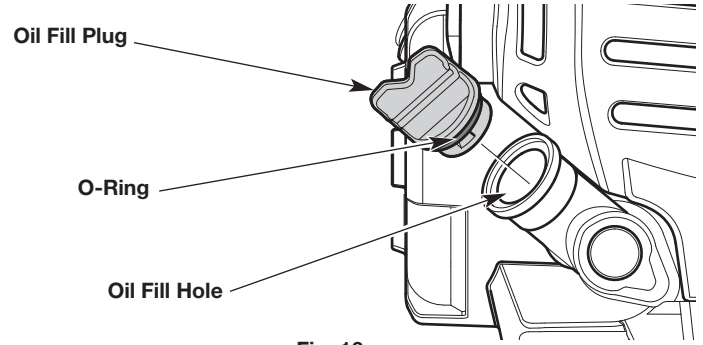

Fig. 16
2. Unscrew the oil fill plug (Fig. 16).
3. Pour the entire container of oil into the oil fill hole (Fig. 16). **DO NOT** overfill. Refer to *Checking the Oil Level*.
5. Make sure the O-ring is in place on the oil fill plug (Fig. 16).